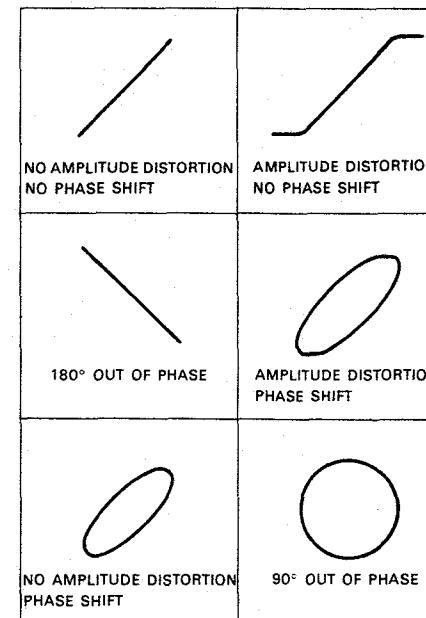

Fig. 32 Typical phase measurement oscilloscope displays
7. Some typical results are shown in Fig. 32. If the two signals are in phase, the oscilloscope trace is a straight diagonal line. If the vertical and horizontal gain are properly adjusted, this line is at 45° angle. A 90° phase shift produces a circular oscilloscope pattern. Phase shift of less (or more) the 90° produces an elliptical Lissajous pattern. The amount of phase shift can be calculated from the oscilloscope traces as shown in Fig. 33.